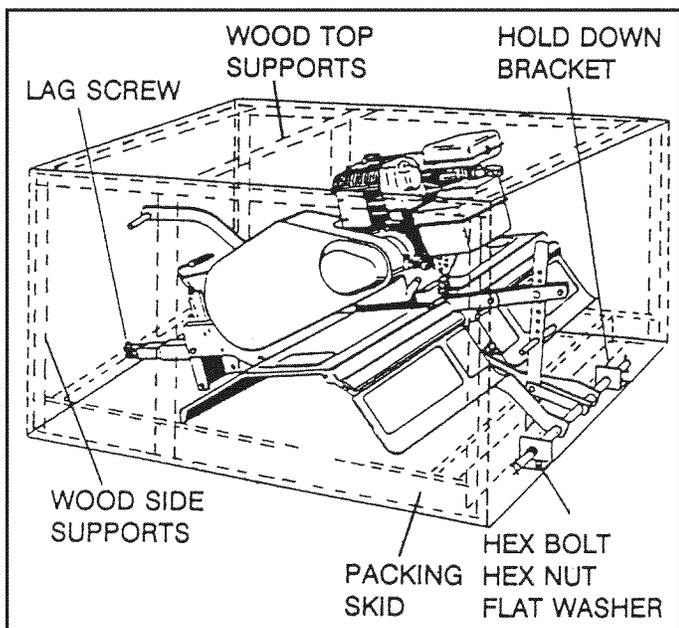

FIGURE 1
- Cut from top to bottom all four corners of the carton and lay panels flat. (See Figure 1)